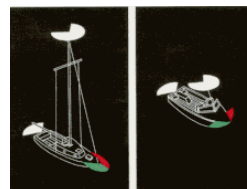
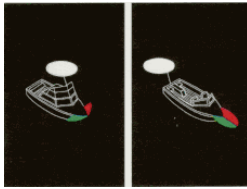

Figure 1
Figure 2
Motorboats less than 20 meters (65.62 feet) shall exhibit navigation lights as shown in Figure 1. *(Note: Two masthead lights are optional for boats under 50 meters. Boats over 50 meters [164 feet] will display two masthead lights.)*
Motorboats of less than 12 meters (39 feet, 4 inches) in length, may show the lights in either Figure 1 or Figure 2. Boats of less than 7 meters (23 feet) whose maximum speed cannot exceed seven (7)